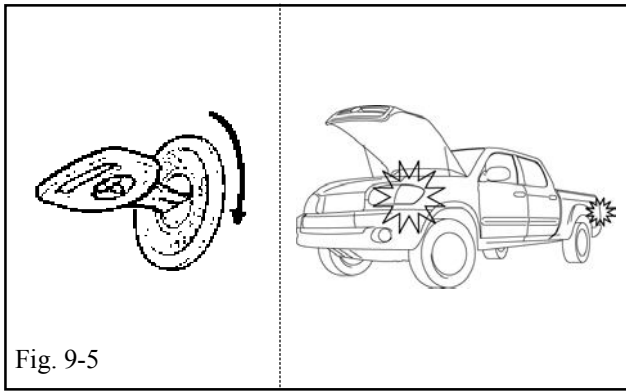

Fig. 9-5
- (g) Start the Engine. (Fig. 9-5)
- (h) After 10 seconds stop the Engine. (Fig. 9-5)
- (1) The hazard lights flash 1 time.